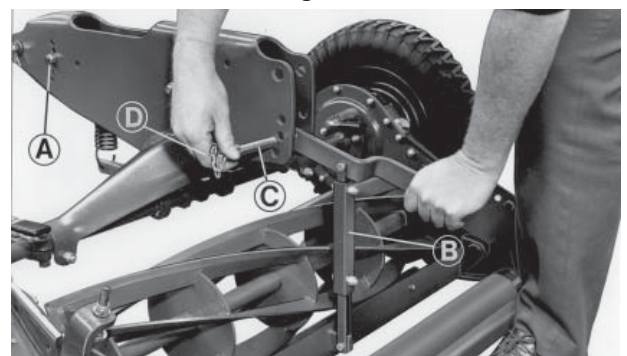

Fig 20
(Fig. 20). With the tractor on level ground and the drawbar set at 15" from the ground check that the top of the unit frame is horizontal. If it is not it can be adjusted by withdrawing the bolts from the front of the unit frame (A). This will allow the front of the unit frame to be raised or lowered to give correct level. The bolt should be replaced in the nearest hole but check that the distance piece inside the unit frame is in position before securing.